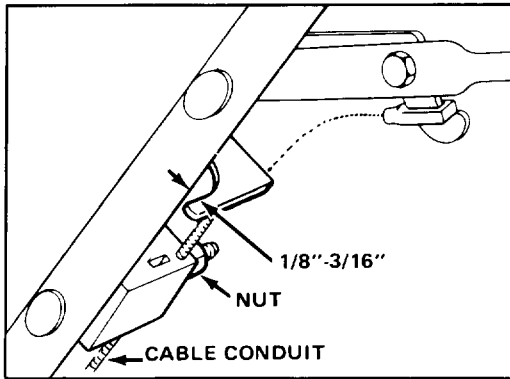

Figure 19
2. CHECK ADJUSTMENT (Fig. 19) Move control bar toward handle until slack in wire is removed. Gap between brake lever and handle must be $1/8''-3/16''$. See step 3 for adjustment.
on cable bracket (Fig. 19). Insert $1/8''-3/16''$ object between brake lever and handle. Pull down on cable conduit until all slack is removed from wire. Then tighten nut.